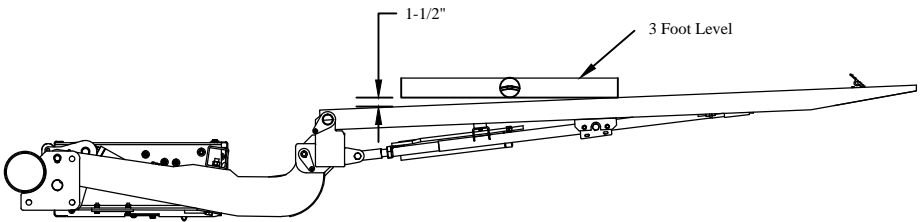

Figure 3: Platform leveling position.
4. **Adjust** the passenger side support arm so that the platform is 1-1/2" from level over a 3 foot length (Figures 3 and 4).